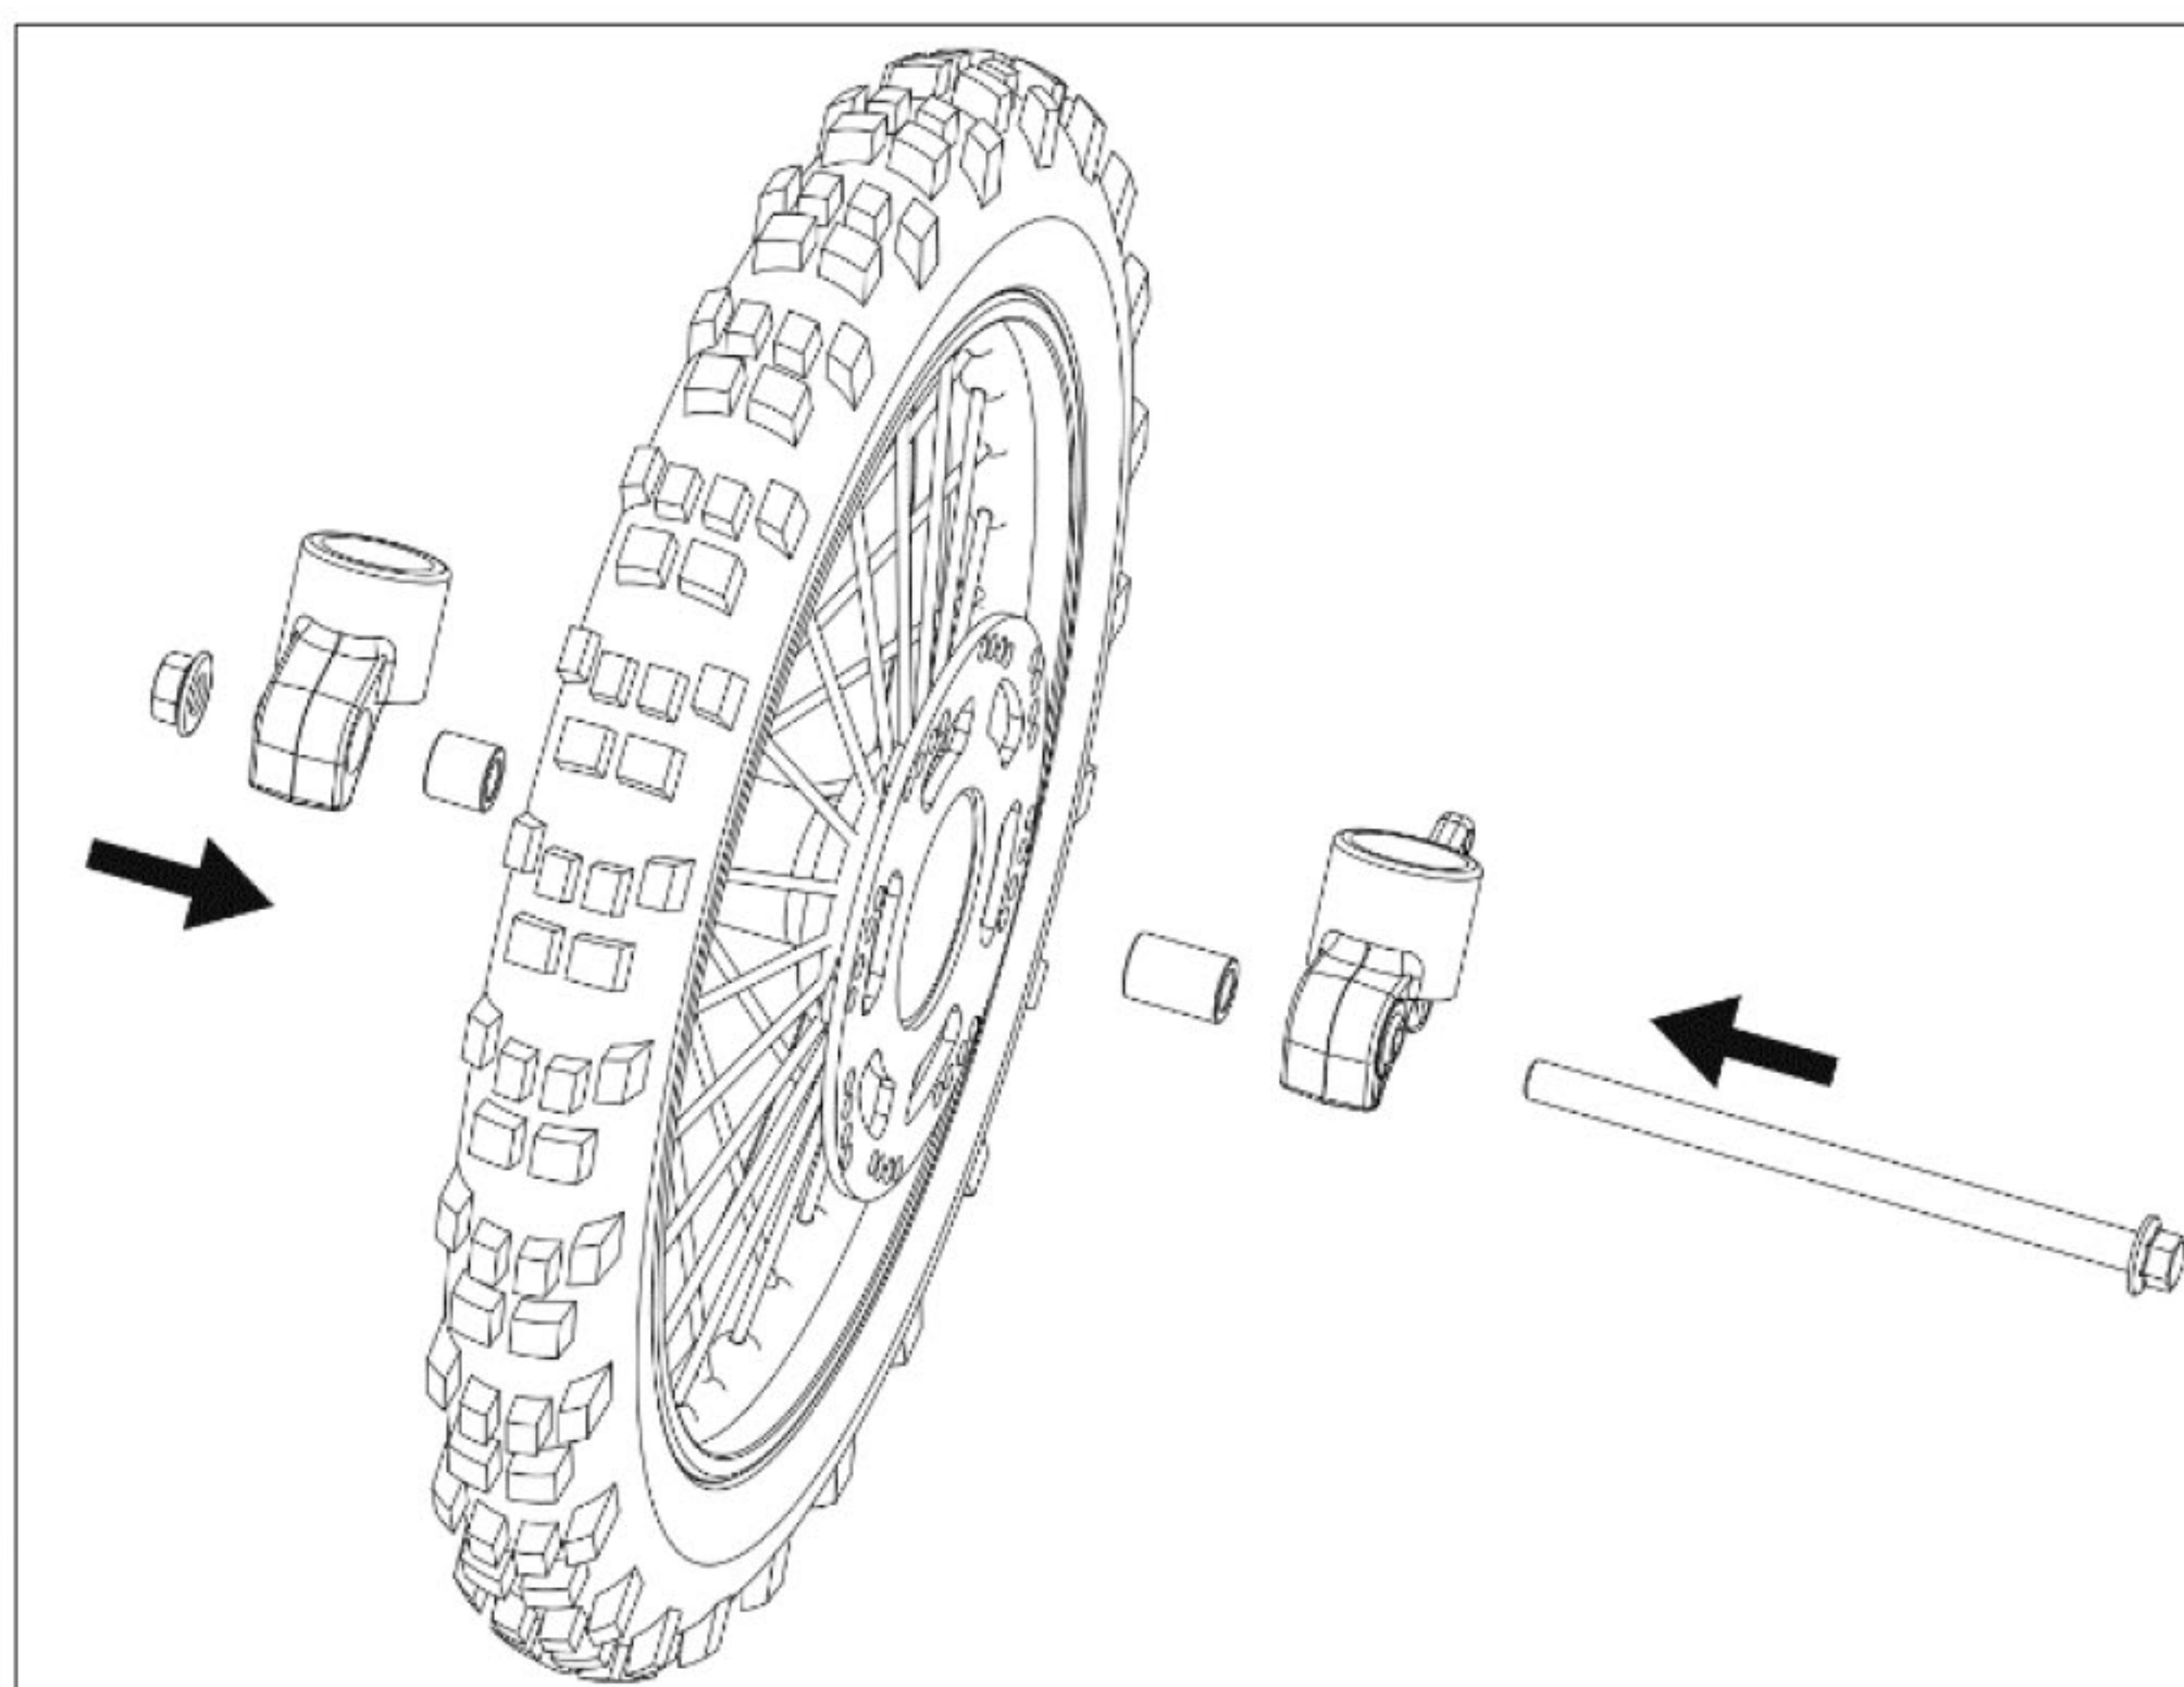

Figure 2.3.1
1.Follow Figure 2.3.1, Install front axle and hardware through front wheel.